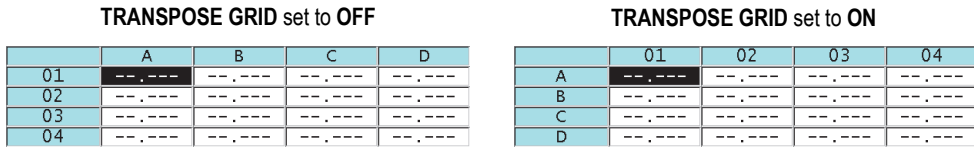

Figure 10-11 Grid transposition example
- Set **TRANSPOSE GRID** to **ON** to interchange the rows and columns in a grid (see Figure 10-11 on page 169).